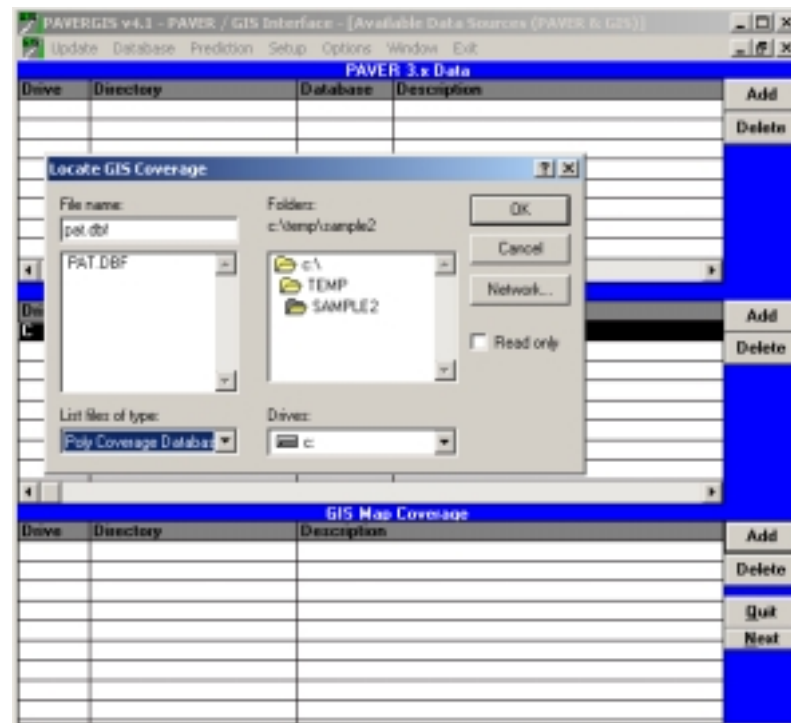

Figure 6
- (1) Open the Micro PAVER program and click on the PAVERGIS button.
- (2) From the pull down menu select SETUP, AVAILABLE DATA SOURCES.
- (3) In the PAVER 4.0 Data window click ADD and locate the .pvr file that contains the corresponding database for the Coverage that was created (figure 6). Click OK and enter a description for the file and click OK again.
- (4) In the GIS Map Coverage window click ADD and locate the PAT.dbf file for the Coverage that was created in part 2 (it will be located in the folder with the same name as the last Theme that was created). Click OK and enter a description for the file and click OK again.
- (5) Click the NEXT button to open the Data Preparation Export / Import screen (This screen can also be reached from the pull down menu through SETUP, PREPARE DATA).